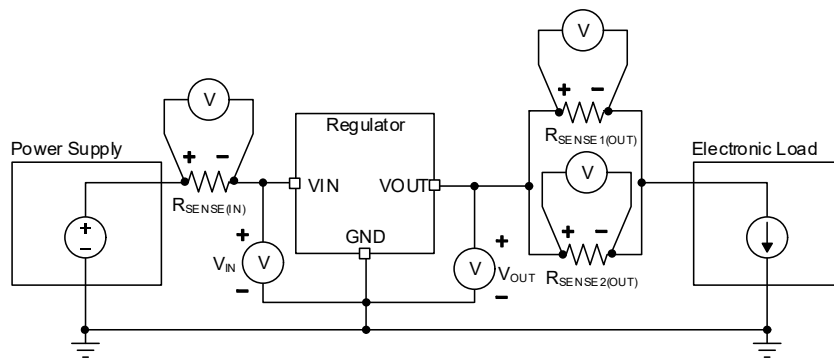

Figure 16. Setup for Reducing Voltage Drop at the Electronic Load
- Use two or more sense resistors to minimize the voltage drop across the resistor. For example, if you use two 100mΩ resistors instead of one 100mΩ resistor, at 100A, the voltage drop across both is reduced by 50mV, improving the voltage to the electronic load terminals 50mV. Figure 16 illustrates this setup.